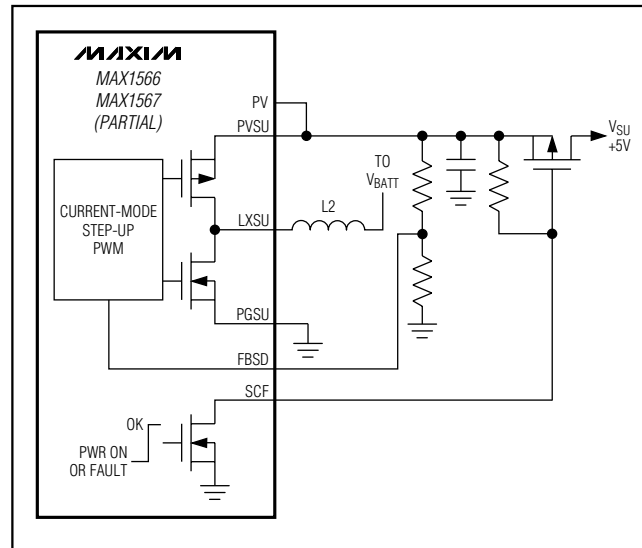

Figure 17. SCF Drives PFET Load Switch on 5V to Disconnect Load on Fault and Allow Full-Load Startup
**SCF** goes high (high impedance, open drain) when overload protection occurs. Under normal operation, **SCF** pulls low. **SCF** can drive a high-side P-channel MOSFET switch that can disconnect a load during power-up or when a channel turns off in response to a logic command or an overload. Several connections are possible for **SCF**. One is shown in Figure 17 where **SCF** provides load disconnect for the step-up on fault and power-up.
If a soft-short or overload remains on PVSU, the startup oscillator switches the internal N-channel MOSFET, but fault is retrigged if regulation is not achieved by the end of the soft-start interval. If PVSU is dragged below the input, the overload is supplied by the body diode of the internal synchronous rectifier, or by a Schottky diode connected from the battery to PVSU. If desired, this overload current can be interrupted by a P-channel MOSFET controlled by SCF, as shown in Figure 17.
up may have difficulty starting into heavy loads (see the Minimum Startup Voltage vs. Load Current (OUTSU) graph in the *Typical Operating Characteristics*); however, this can be remedied by connecting an external P-channel load switch driven by SCF so the load is not connected until the PVSU is in regulation (Figure 17).